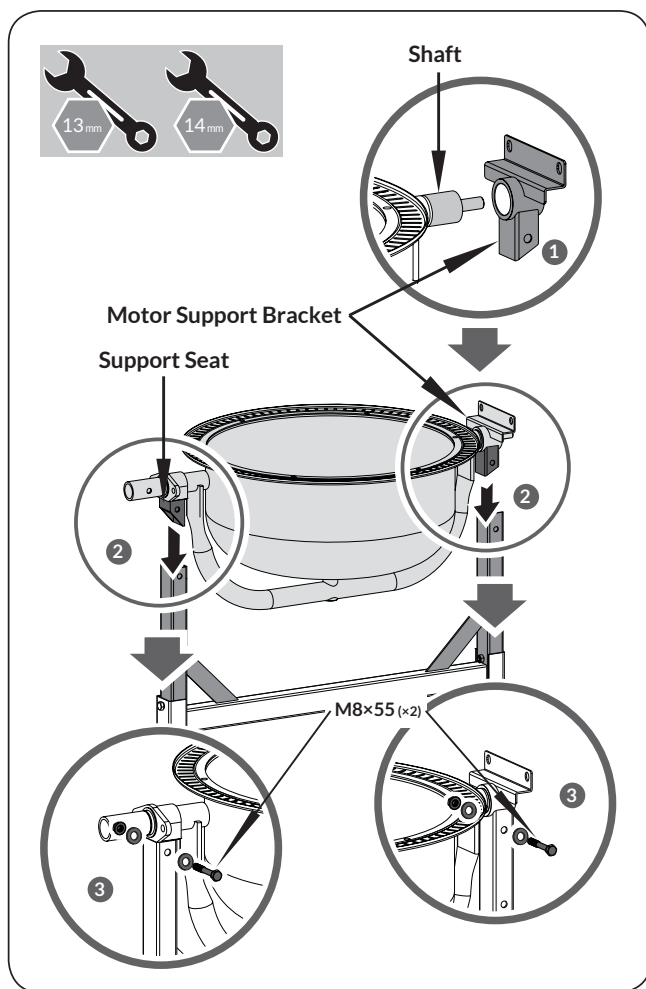

Figure 2
1. Slide the motor support bracket on the shaft. (See **Figure 2, illustration 1**)
2. Carefully place the bottom drum with support arm onto the side supports of the stand as shown. (See **Figure 2, Illustration 2**). The motor support bracket and support seat should slide into the side support channel on each side. The larger diameter shaft should be at the leg end of the stand.
3. On each side, line up the holes in the side support with those in the the motor support bracket and support seat, insert a M8×55 hex bolt from one side, then a flat washer, lock washer and nut from the other side. Tighten with a wrench. (See **Figure 2, illustration 3**)